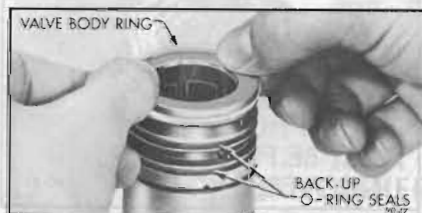

Figure 90-42—Installing Valve Body Rings
1. If removed from valve body, lubricate three new ring back-up "O" ring seals in automatic transmission oil and assemble in the three ring grooves on the valve body. Assemble three new valve body rings in the ring grooves over the "O" ring seals by carefully slipping over the valve body. See Figure 90-42.